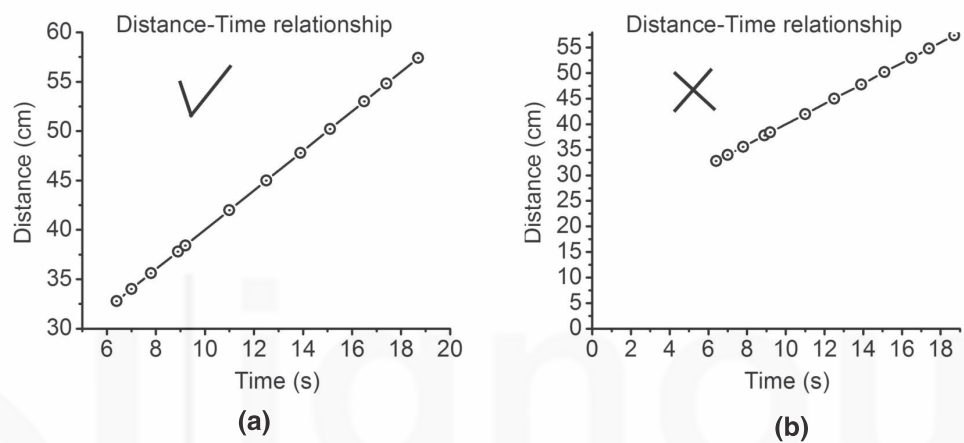

Fig. 2.3: Choice of scale: a) proper; b) improper.
- ii) You should choose the scales so that the points are suitably spread out on the entire graph-paper as shown in Fig. 2.3(a) rather than being cramped into a small portion as done in Fig. 2.3(b). Note the minimum and maximum values of the data to be plotted. Then round off these numbers to slightly less than the minimum and slightly more than the maximum. The resulting difference should be divided by the number of divisions on the graph-paper. For example, if you are to plot data between 6.4s and 18.7s on x -axis and corresponding y -axis readings range between 32.8 cm and 57.4 cm then, it would be convenient to allow the x -scale to run from 5 to 20s rather than 0 to 19s and y -scale between 30 and 60 cm instead of 0 and 58 cm.